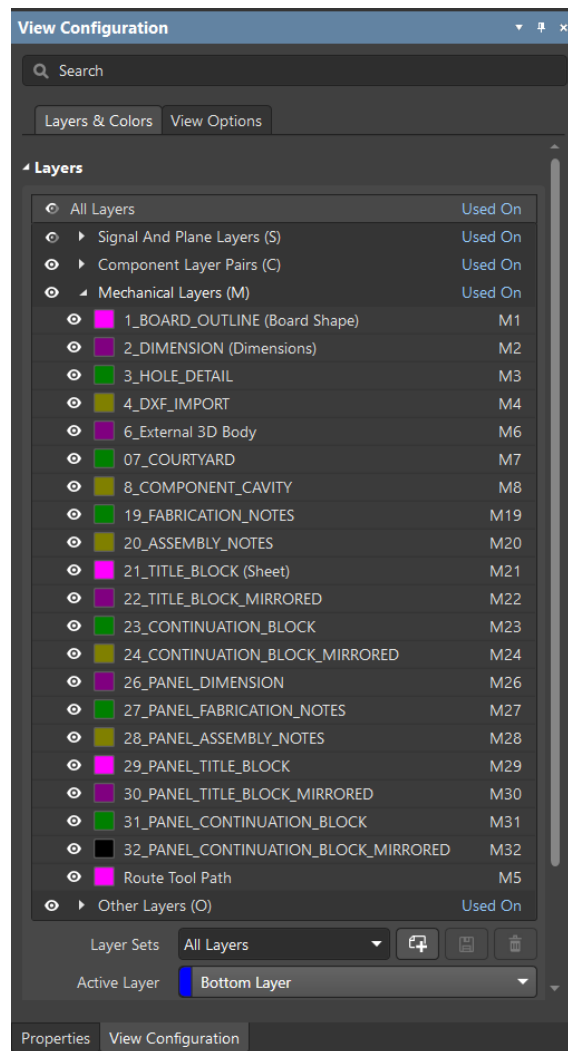

Figure 3. Mechanical Layer configuration
22. After loading the \*.stackup file, notice the new configuration of the mechanical layers, see Figure 3.